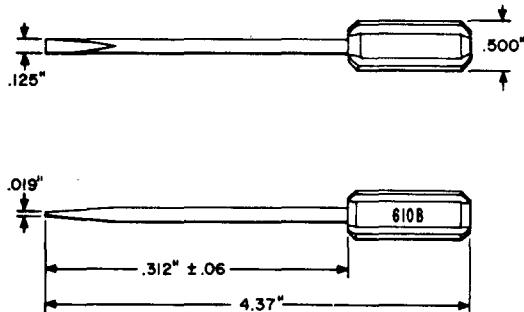

Fig. 1—610B Adjuster Tool
2.01 610B: The 610B tool (Fig. 1) is an adjuster used in adjusting gain potentiometers in voice frequency jack panels of L-type Multiplex Systems. The 610B tool replaces the 610A tool.